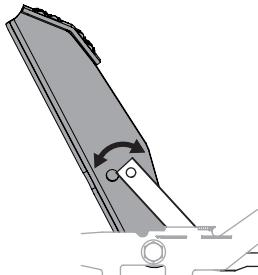

Figure 31
3. Position the pedal to the optimal position based on operator preference. See Figure 31.